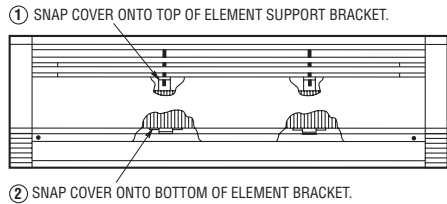

Figure 7. Cover Attachment
- Replace the front cover by fitting the top lip of the cover onto the tabs on each junction box and top edge of the element support bracket(s). Rotate the cover downward, pushing the bottom corners inward. Install two screws (removed in Step 4) through the cover into the junction boxes. See that the bottom of the cover is engaged onto the bottom of each element support bracket. See Figure 7.
3. After cleaning and servicing, replace front cover and screws removed making sure cover is properly secured into each element support bracket at top and bottom – see Figure 7.